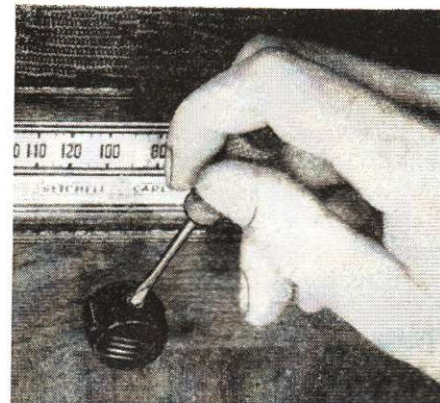

FIG. 4. Loosening the set screw of a receiver control knob with a small screwdriver. Some knobs may have two set screws.
**Removing Control Knobs.** We first loosen the tiny set screw in each control knob, using a small screwdriver as illustrated in Fig. 4, then remove the knobs.